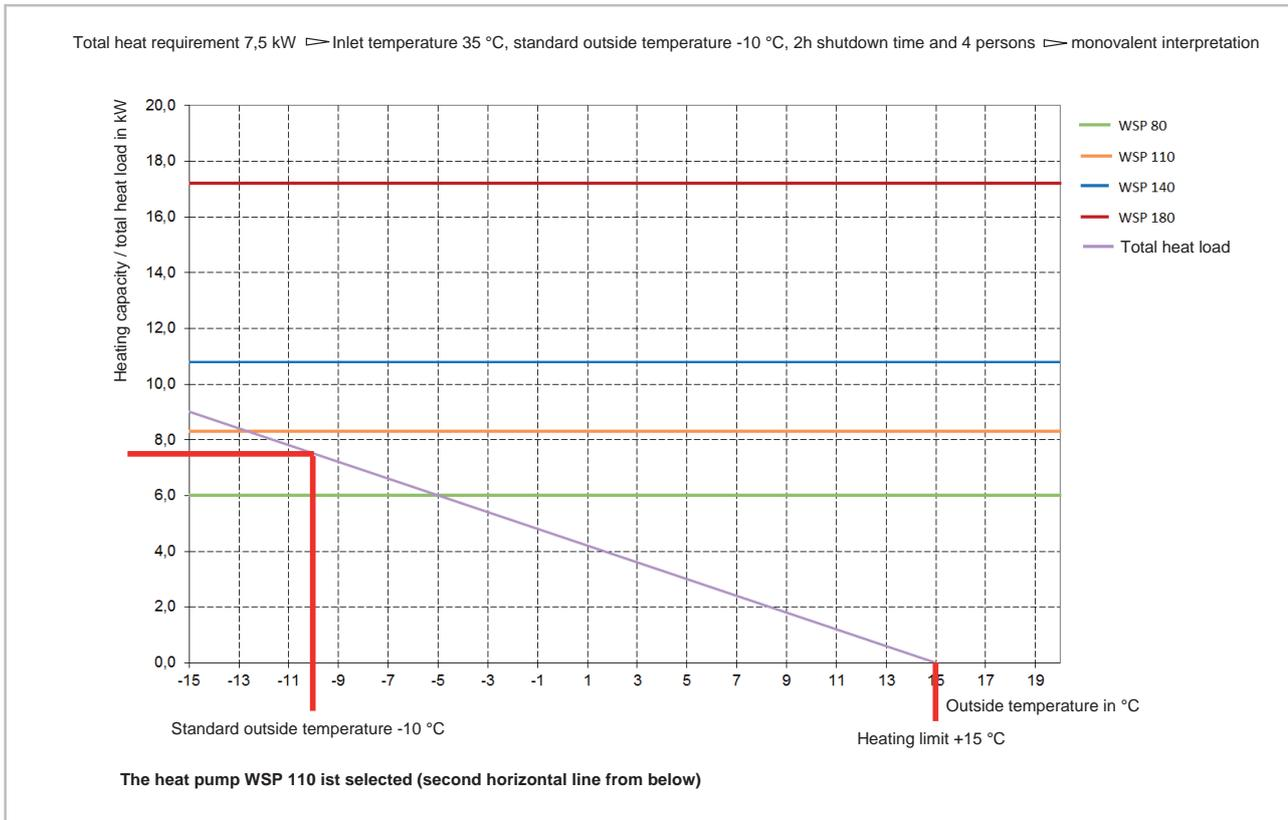

Fig. 10: Selection of the brine heat pump WSP
- By way of a design example, a residential home with a living area of 150 m² and a heating requirement of approx. 35 W/m² was selected. A total of five persons live in the house. The heat load amount to 5.3 kW. Adding a drinking water allowance of 0.2 kW results in a required heating capacity of 6.3 kW. Depending on the power company, an additional charge must then be made in order to factor in any service time-out periods that may apply. The rating and determination of the heat pump's balance-point temperature derives graphically from the heat pump's inlet temperature specific heat-output diagram (in this example 35 °C for underfloor heating). Next, the heat load for the standard outdoor temperature (the lowest temperature of the year locally) and the heat threshold are marked on the graph. The outside-temperature-dependent heating requirement, (Fig. 10) simplified here as a straight-line relationship between heat-load and the start of the heating season, is recorded in the graph of heat-load curves. The intersection of the two straight lines with the rated heat-load curve is plotted on the X axis, where the balance-point temperature is read (in this example approx. -3 °C). The minimum performance of the 2nd heat source is the difference between heat load and the heat pump's maximum heating capacity on these days (in this example, the required power required to cover peak load requirements is approx. 3 kW).